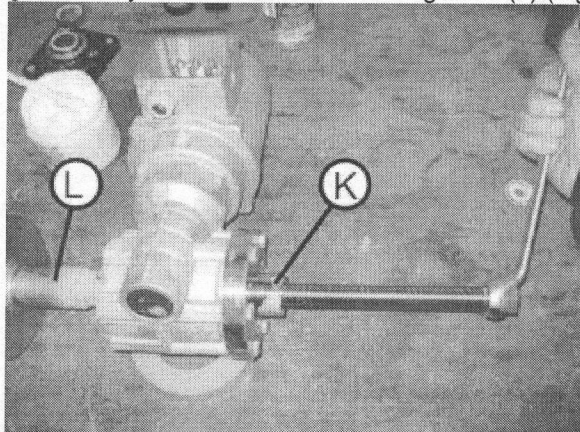

Fig. 012
11. Loosen retaining screw from shaft and remount without washer. Then screw extractor (K) onto gear and eject the shaft of the running roller (L) (Fig. 012).